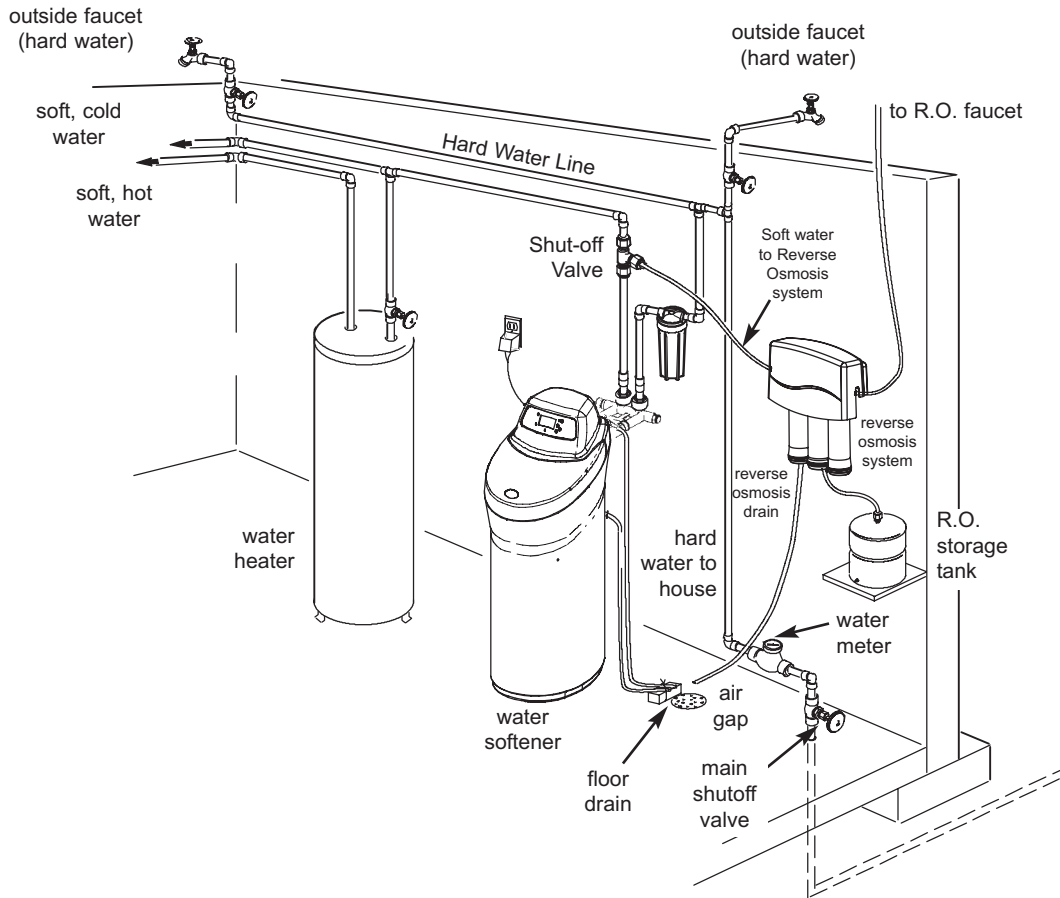

FIG. 3
1. Place as close as possible but always after, the pressure tank (well water) or water meter (city water). See Fig. 3.
2. Place as close as possible to a water drain such as a floor drain, laundry tub, sump or standpipe. See Fig. 3.
3. Connect to the house main water pipe **BEFORE THE WATER HEATER**. See Fig. 3. **Temperature of water going through the softener must not be more than 120°F (49°C)**. Hot water will damage inner softener parts. *To reduce the risk of hot water backup*, piping between the softener and water heater should be as long of a run as possible.
4. Keep outside faucets on hard water to save soft water and salt. See Fig. 3.
7. A grounded, 120V electrical outlet is needed within 10 feet of the softener. See Fig. 3. This is to plug in the transformer. The softener has a 10 foot power cable. **Be sure the outlet and transformer are in an inside place, to protect from wet weather.** Use a continuously "live" outlet, which cannot be accidentally switched off.